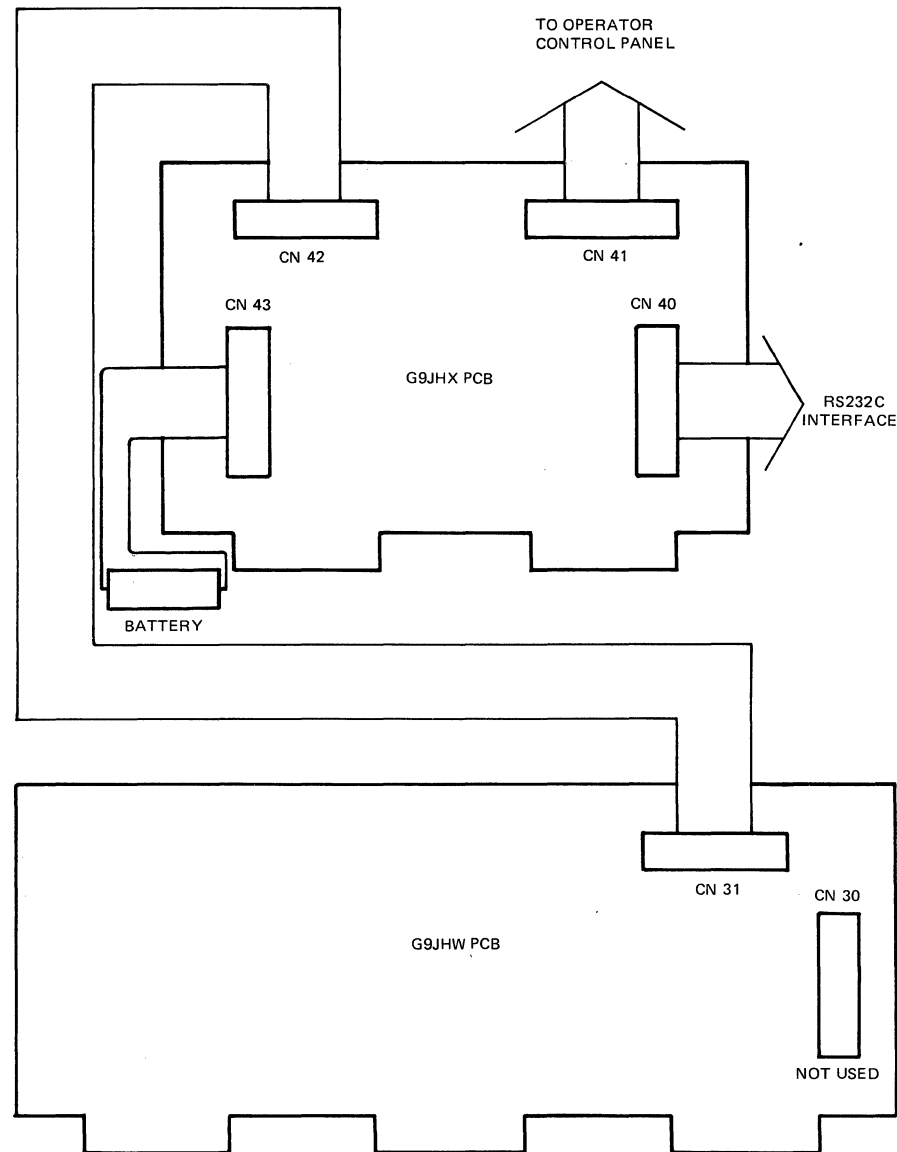

Figure 4-22 G9JHX PCB Kit Cable Connections
- d. Connect the cable supplied in the kit to CN31 of the G9JHW PCB and CN42 of the G9JHX PCB (see Table 4-2 and Figure 4-22).